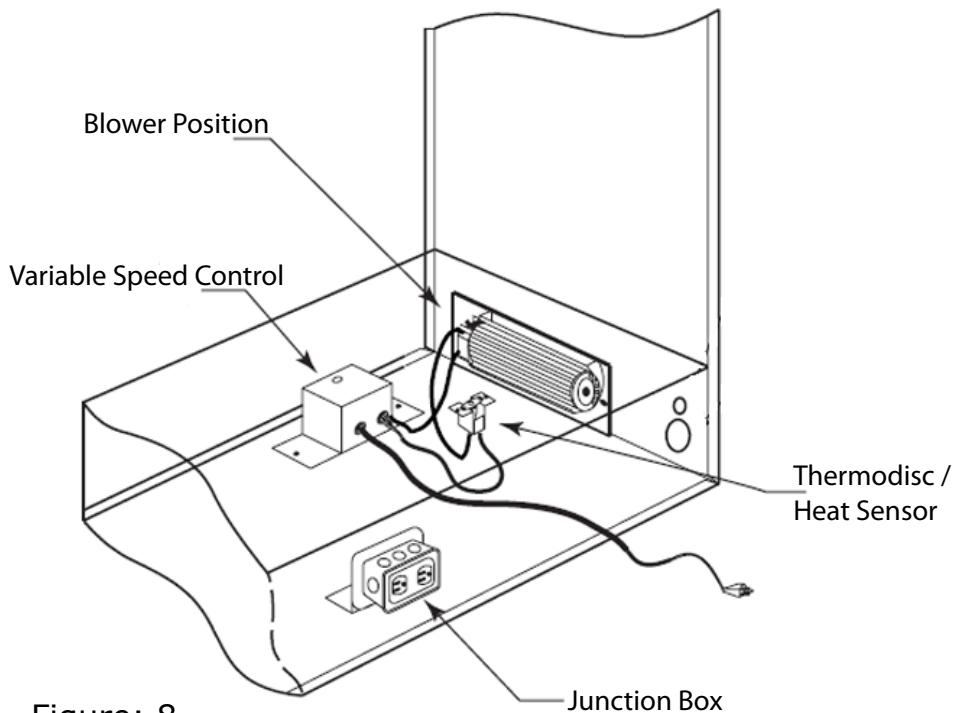

Figure: 8
•If you have a Multi-Sided fireplace, See Figure: 8.